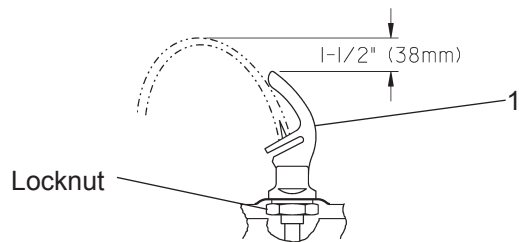

**Figure 4**
7. **Install** reset switch and mating bracket on lower fountain (lower right bolt) for bottle filler (Fig. 4). Snap the switch into position after locating wires through slot. Wrap up the excess cord.
8. Install fountains with (8) 5/16-18 HHMS (provided) (Fig. 4). Connect the 1/4" water lines from each fountain to the remaining openings on the tee at the remote chiller (cut lines to fit as needed), (Test fit refrigerated panel to make sure there is a tight joint between it & the main panel before fully tightening mounting screws).
- 1) To access the program button, remove the bottom cover on lower fountain arm (Fig. 4) by removing the bottom cover screws. Reset button is located on mounting bracket.